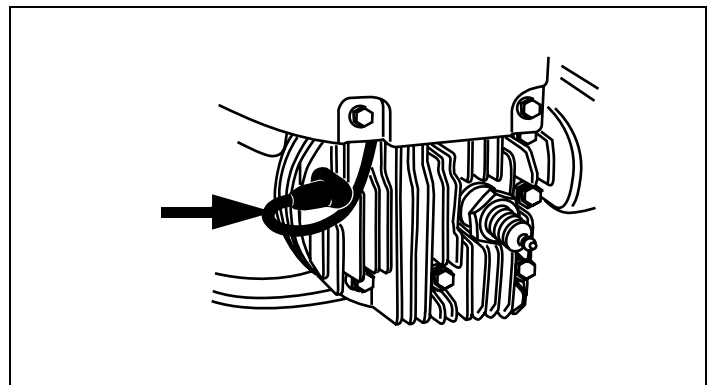

Figure 4. Spark Plug Grounding Post
- Attach the spark plug wire to the grounding post, if provided. See Figure 4.